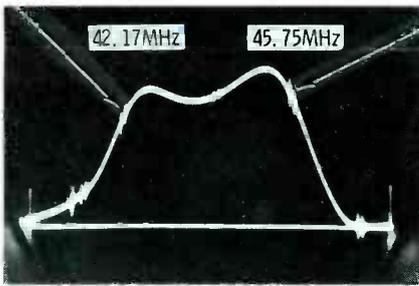
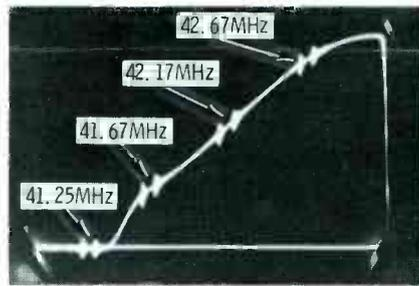

Fig. 7 The normal link curve.
Fig. 8 Expanded sound trap marker for precise adjustment.
Note: Admiral advises that the 45.75-MHz side of the curve should be aligned slightly high when the transistorized link-amplifier is used. Link alignment is very important, and the correct curve (Fig. 7) should be obtained before you go on to the next step. Then remove the link-amplifier assembly.
8. Reduce the **sweep width** and adjust the **tuning** dial to a lower frequency to expand and center the 41.25-MHz trap marker, as shown in Fig. 8. Alternately adjust the top core of L7 (A1) and R17 for minimum response at 41.25 MHz. Be precise; satisfactory reduction of the 920-KHz beat pattern depends mainly on this adjustment.
5. Following the component numbering system used in PHOTOFACT folder 949-1, adjust L215 (on the tuner) and L2 (A6 on the IF board) to approximate the curve shown in Fig. 7. Alternately adjust L1 (A2) and R16 (trap balancing control) for minimum response at 47.25 MHz. For better accuracy of the trap adjustment, widen the curve by decreasing the sweep width to about 2 MHz and moving the tuning dial to about 47 MHz to bring the trap marker to the center of the screen, as shown in Fig. 8 (which is the other trap). Increase the scope gain to maximum (if the curve is large enough, allow the top of the curve to extend off the screen), reduce the marker height and adjust L1 and R16 again, being careful that each is set for a definite